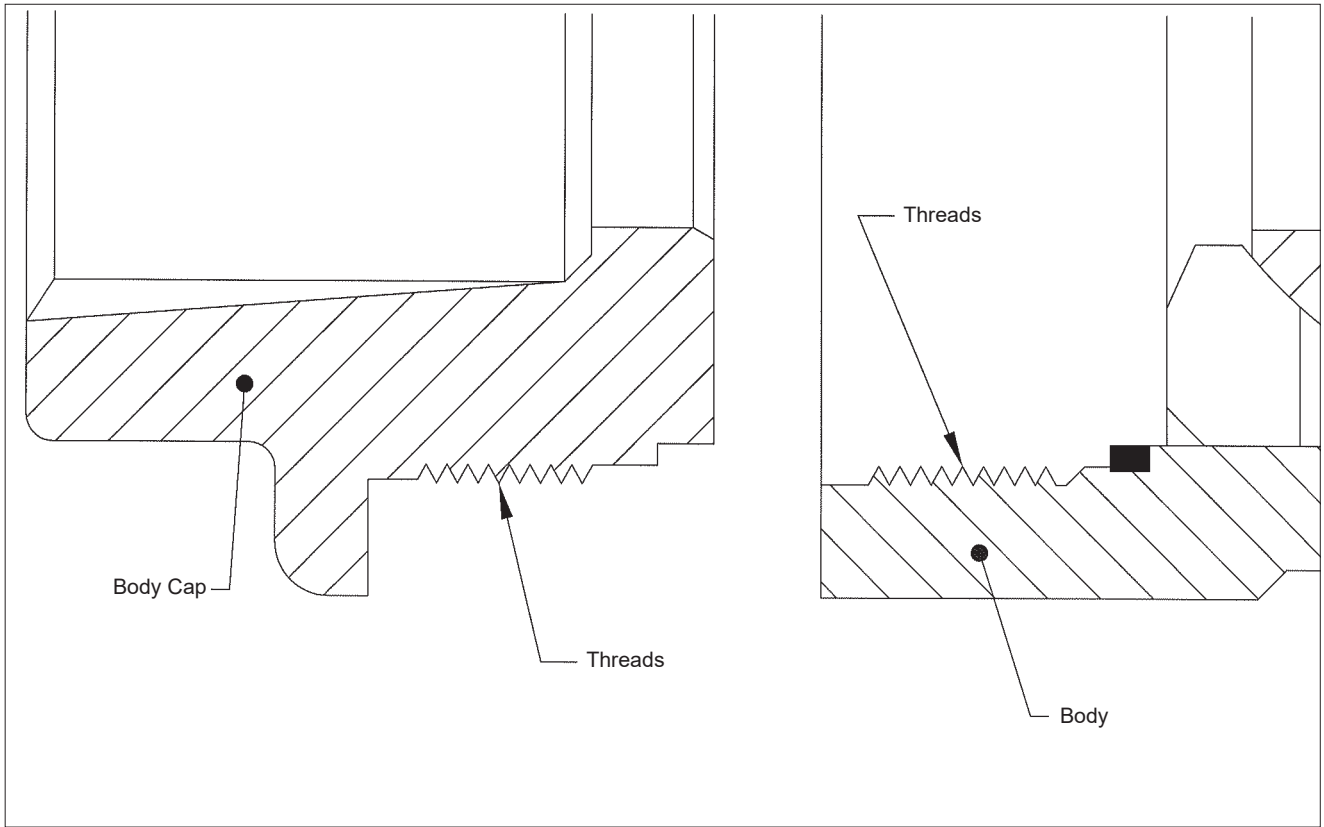

Figure 3.
3. Remove the handle nut (16), handle (15) and lower stem nut (19).
4. Remove the compression ring (18).
5. Hand grind the existing welds, and then chisel, to break the remaining weld. Unscrew and remove the body cap (2) and body seal (6).
6. If the ball (3) and seats (5) do not fall from the body with the ball in the fully closed position, use a piece of wood or some other soft material to gently tap the ball (from the end opposite body cap). This will unseat these parts without damaging the ball.
7. Press the stem (4) from the top into the valve body and remove it through the body cap end of the body.
8. Using a wire brush, clean the internal body cap thread and internal body threads (**see Figure 3**).
9. Remove and discard the old stem seals (7), stem bearings (8) and sec. stem seal (13). Be very careful not to scratch any sealing surfaces in the valve body (surfaces on which seats and seal rest).